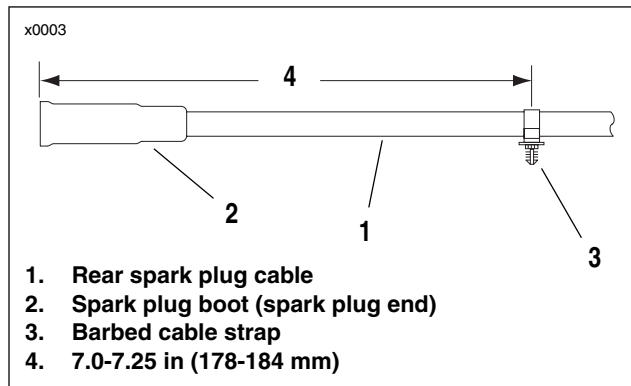

Figure 7-112. Rear Spark Plug Cable and Cable Strap
29. See Figure 7-112. If caddy latch clip or rear spark plug cable were replaced, install **new** cable strap (3) onto spark plug cable (1), 7.0-7.25 in (178-184 mm) from tip of spark plug cable boot (2), orienting cable strap so that spark plug cable is above mounting boss on caddy latch clip when barbed prong on cable strap is inserted in hole in boss. Press cable strap barbed prong firmly into hole in caddy latch clip mounting boss.